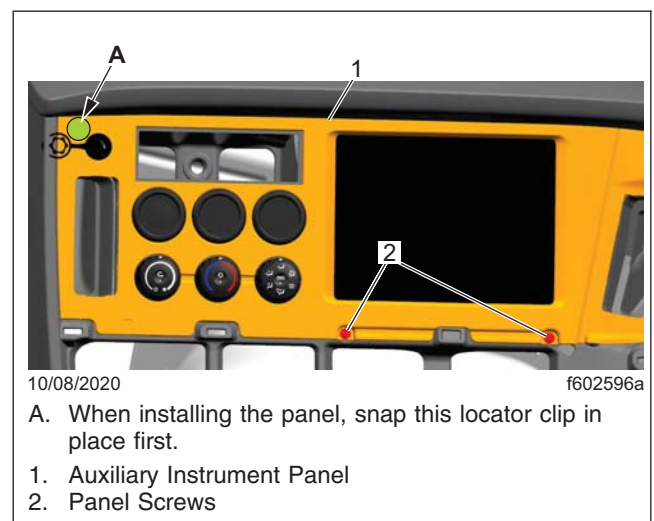

Fig. 2, Right-Hand Drive Auxiliary Instrument Panel Removal and Installation
2. Remove the auxiliary instrument panel (B-panel upper fascia). See Fig. 2.
5. Install the auxiliary instrument panel (B-panel upper fascia). See Fig. 2.